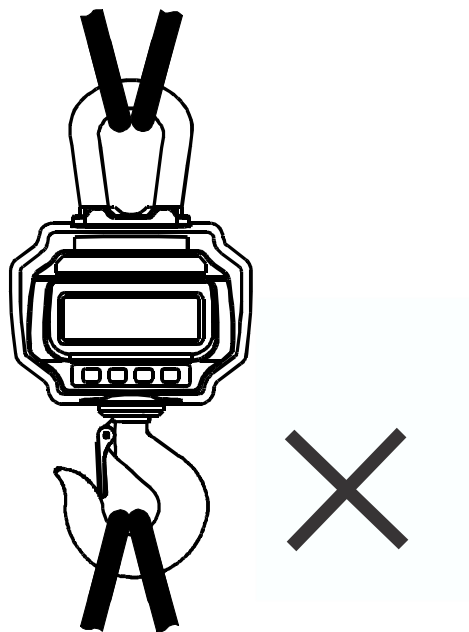

Figure 5.4 Multiple Attachments
- 1 DO NOT use multiple attachments! Refer to Figure 5.4.